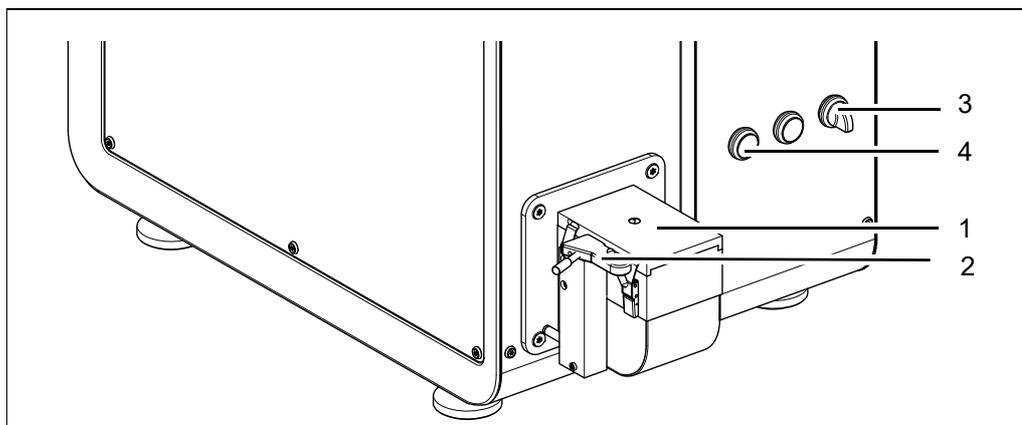

Fig. 6-2 Instrument front
8. Place the displayed recalibration sample on the spark stand (1, fig. 6-2) and fix it with the hold-down device (2).
9. Switch on the excitation source at the rotary knob (3) on the front of the instrument.